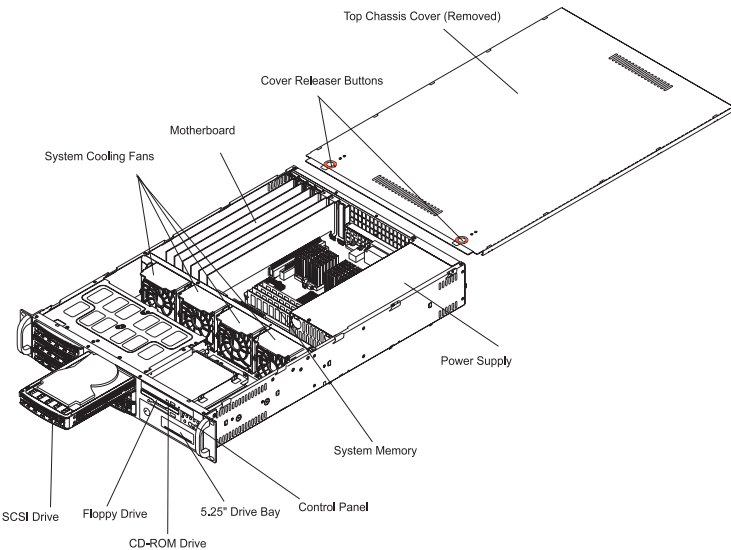

**Figure 2-5. Accessing the Inside of the SuperServer 6022C
1. Accessing the inside of the 6022C (see Figure 2-5):